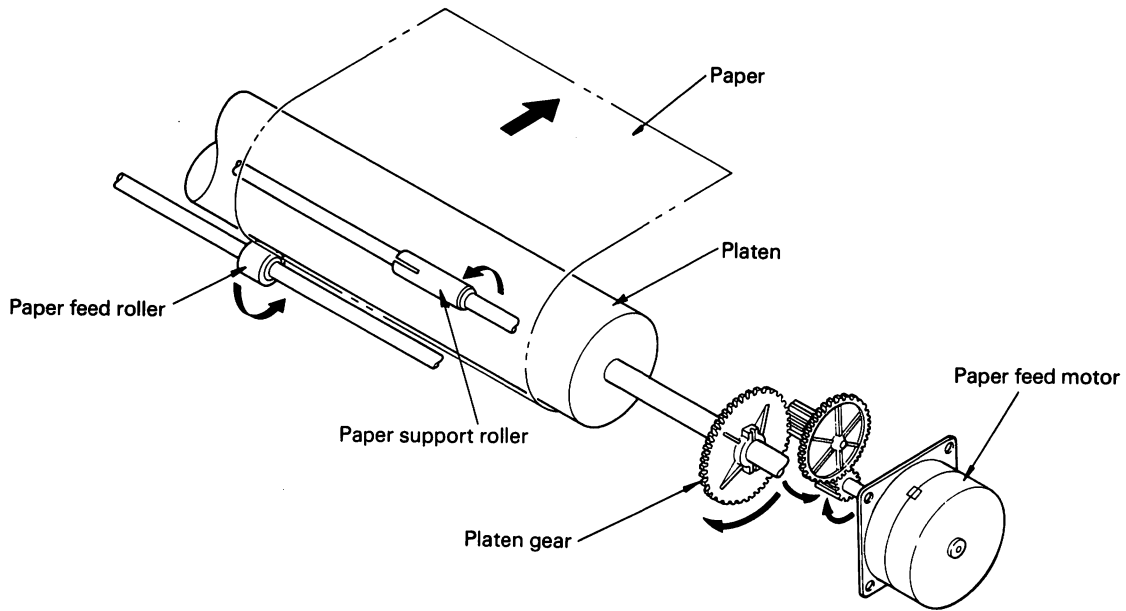

Fig. 2-32. Friction Feed Mechanism
2.5.3 Paper Feed Mechanism (Figs. 2-32 and 2-33)
When using the friction platen (Fig. 2-32), paper is placed between the platen, paper feed rollers, and the paper support roller. As the platen motor operates, the transmission gears rotate in the direction indicated in the figure; paper is pressed against the platen by the rollers and advanced according to motor control. The release lever frees the paper from the platen.